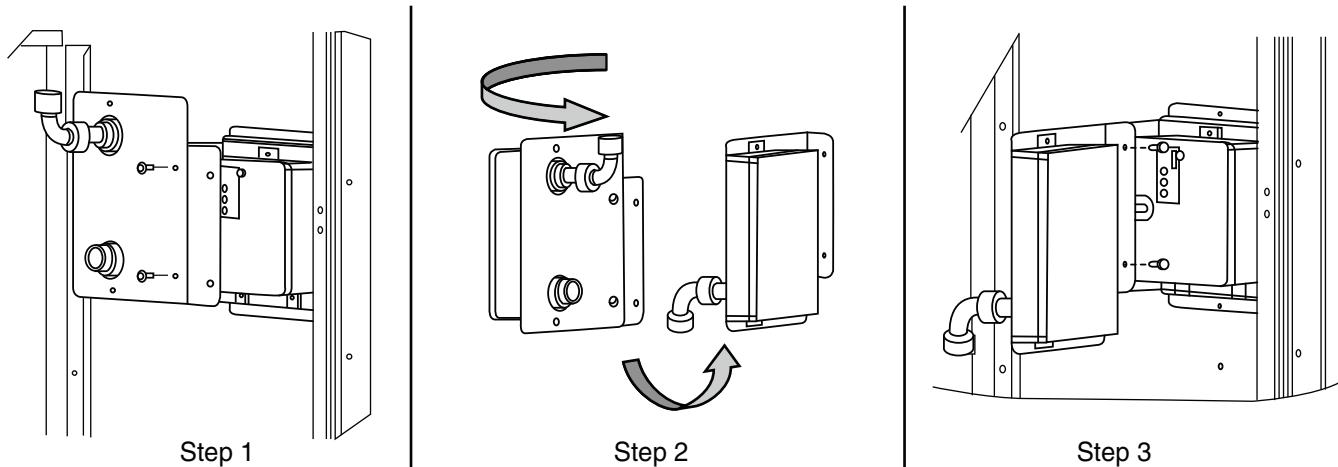

Fig. 52 — Completing Installation of Return Air Smoke Sensor
1. Unscrew the two screws holding the return-air smoke detector assembly. See Fig. 52, Step 1.
3. Turn the assembly 90 degrees and then rotate end to end. Make sure that the elbow fitting is pointing down. See Fig. 52, Step 2.
4. Screw the sensor and detector plate into its operating position using screws from Step 1. See Fig. 52, Step 3.